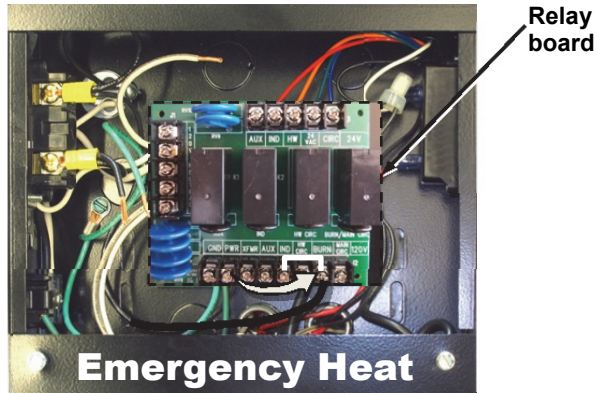

Figure 5A
- 1) Move the black 120VAC wire from PWR to BURN on the relay board (Figure 5A).